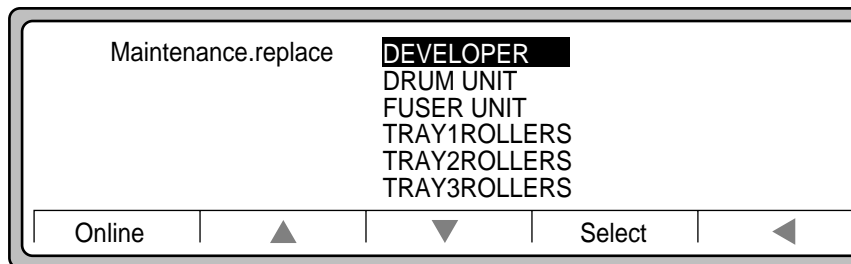

Figure 4-11 Replace selections
- Use ► to display replace selections, as shown in Figure 4-11. Developer is shown selected.